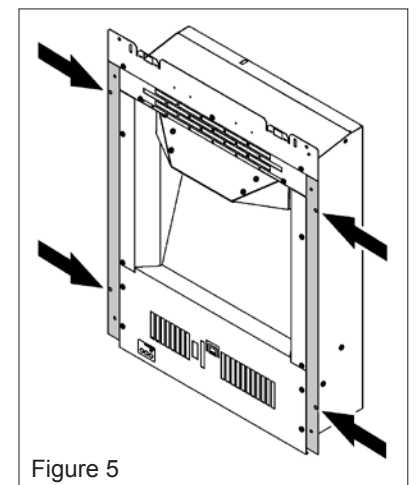

Figure 5
3. Drill the wall if necessary at the four fixing points—see figure 5.